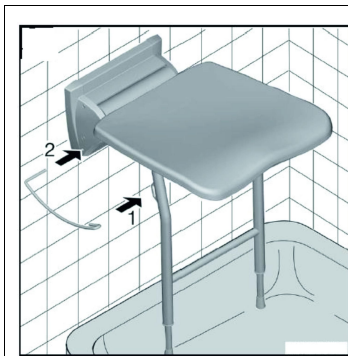

Fig. 18
3. Fix the bracket as shown in the image. (Fig. 18)